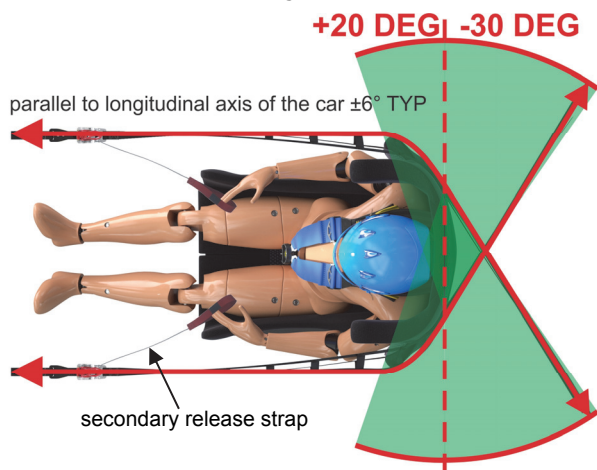

Figure 4: Attachment of front and rear straps
- 4.1 the front straps shall be parallel to the longitudinal axis of the car $\pm 6^\circ$ as shown in **Figure 4**.